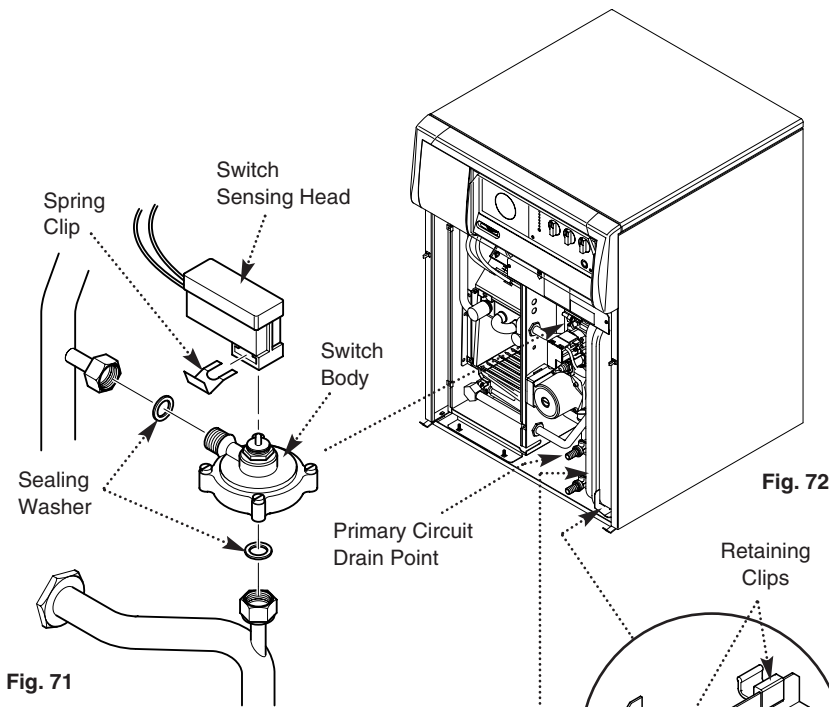

Fig. 71
11.15 Differential Pressure Switch (Figs. 71 & 72)